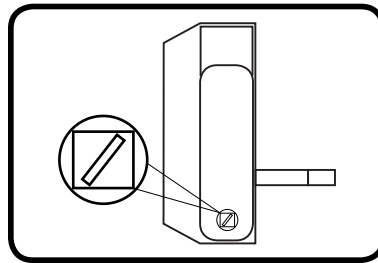

Fig.1
2. Re-fit the keypad and inside handle so they are now on opposite sides, ensuring that the spindle is facing towards the opening edge of the lock body as per **fig.1** below.